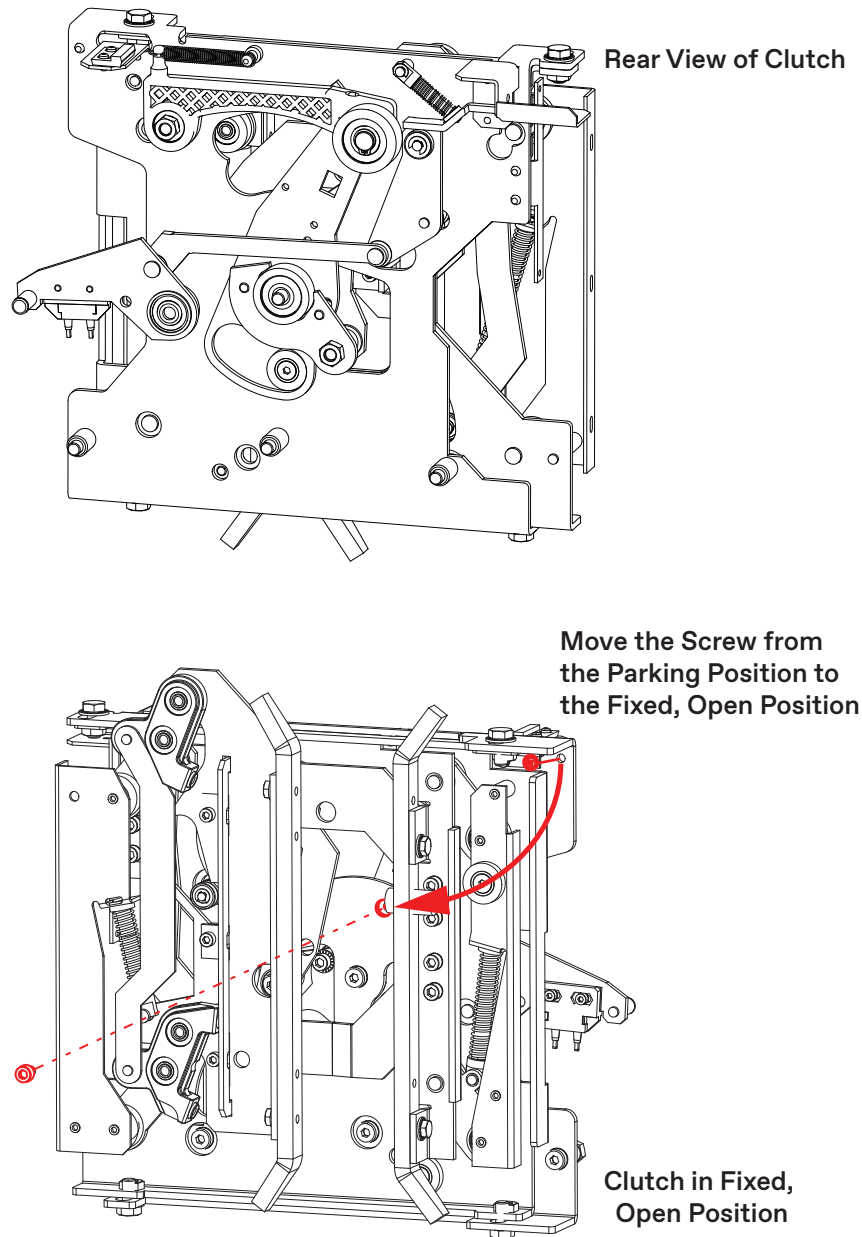

Figure 12 - Change Clutch to Fixed, Open Position
2. Open the clutch, and move the screw from the Parking Position to the Fixed, Open Position. See Figure 12.